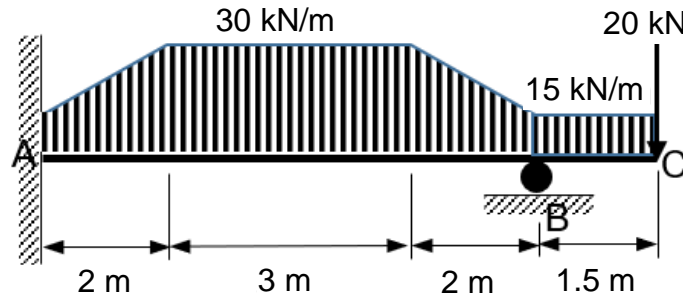

Figure 4
4. **Figure 4** shows a single overhanging concrete beam that supports a trapezoidal load with a minimum and maximum of 15 kN/m and 30 kN/m, respectively, along with span AB. In addition, the beam supports a uniformly distributed load of 15 kN/m along with span BC and a concentrated load of 20 kN at C. The beam is fixed at A and supported by a roller at B. EI of the beam is constant. Answer the following questions using the method of least work.